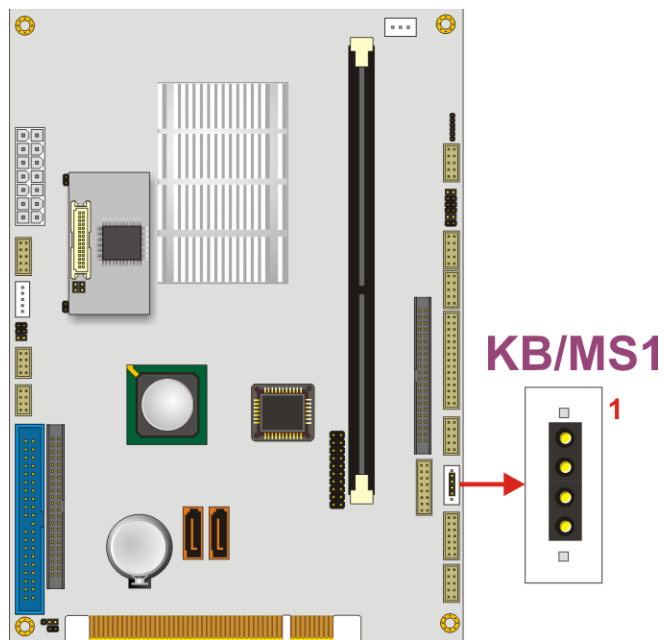

Figure 3-13: Keyboard/Mouse Connector Location
- CN Location:** See Figure 3-13